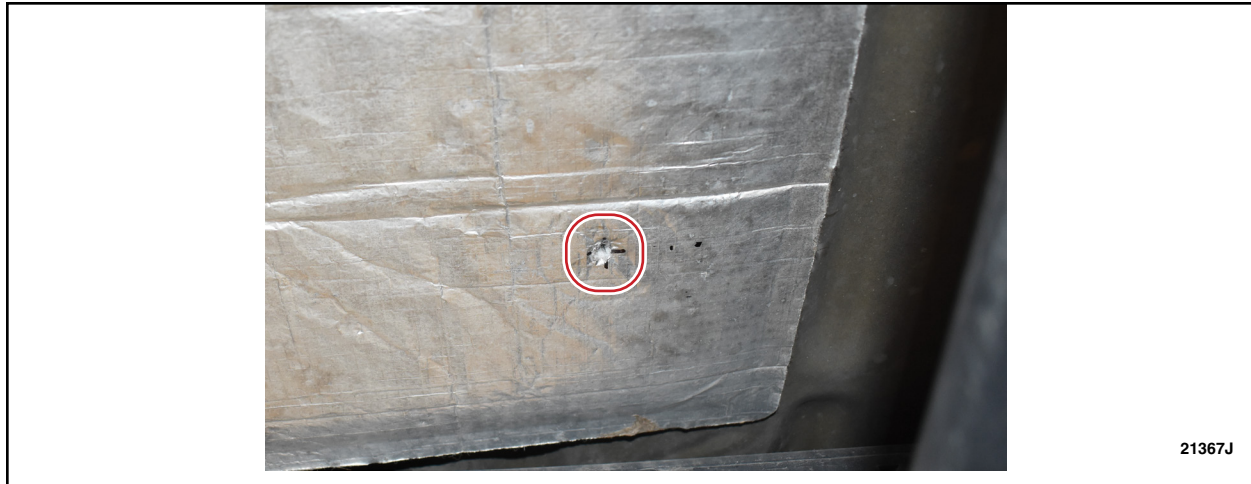

FIGURE 7
6. Using the 6.7mm (17/64 in) drill bit, drill a hole through the insulator and into the floor. See Figure 7.